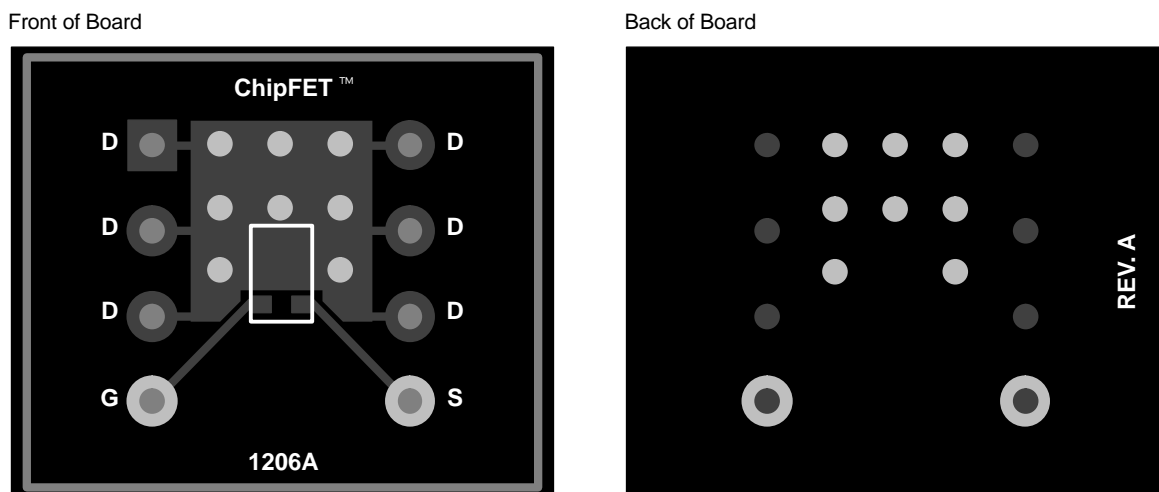

Figure 4. Evaluation Board
0.0054 sq. in. or 3.51 sq. mm. This will assist the power dissipation path away from the device (through the copper leadframe) and into the board and exterior chassis (if applicable) for the single device. The addition of a further copper area and/or the addition of vias to other board layers will enhance the performance still further. An example of this method is implemented on the Evaluation Board described in the next section (Figure 4).
The evaluation board with the pad pattern described on Figure 4	111°C/W